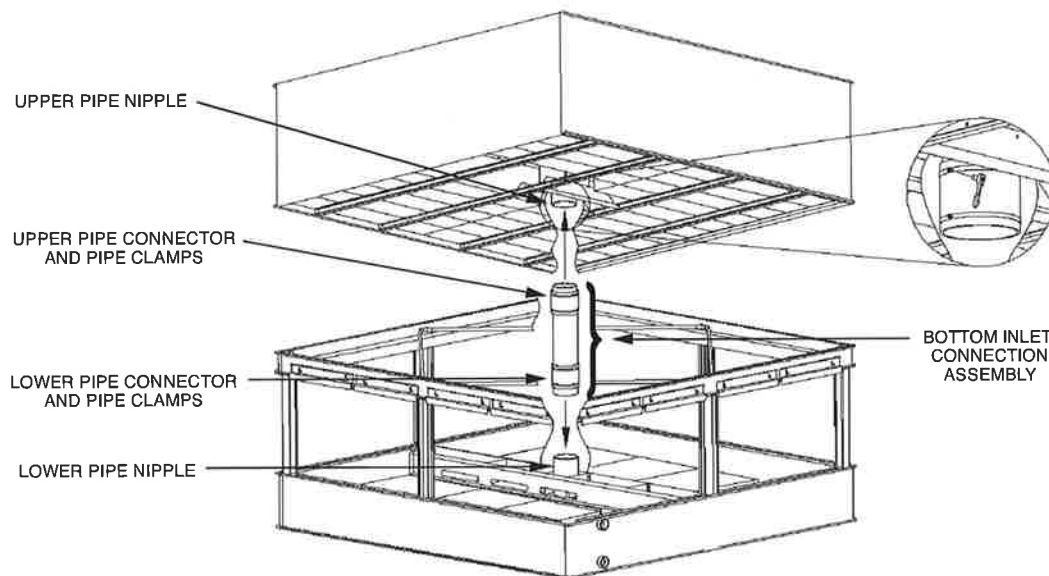

Figure 27 – Bottom Inlet Pipe Spool Installation
Assembly Instructions (Refer to Figure 27) (read all instructions before proceeding):
3. Position the bottom inlet connection assembly over the lower pipe nipple on the basin section. (see Figure 27)